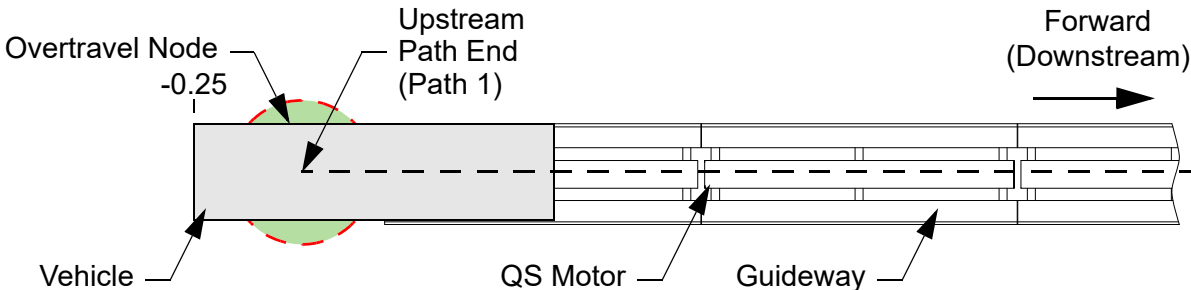
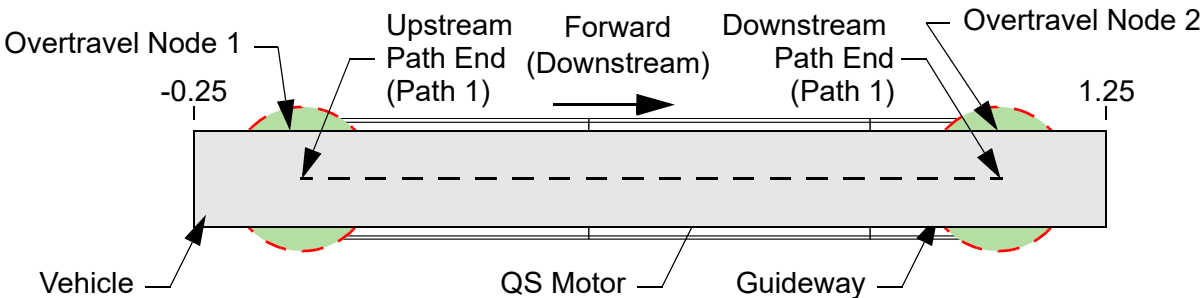

Figure 4-87: Overtravel Node, Startup Top View
Figure 4-88: Overtravel Node, Extended Vehicle Top View
An Overtravel node is used to permit part of a vehicle to move past the end of the motor at the end of a path. Additional support structure (guideway) for the vehicle must be provided, or the vehicle’s supports (wheels) must not be allowed to move past the end of the path. See Figure 4-87 and Figure 4-88, where the shaded area represents Overtravel nodes.
- Providing space for vehicle movement during startup (Figure 4-87).
- Allowing movement of a vehicle that is longer than the motor(s) on the path (Figure 4-88).
If the configuration of this node is the same as the configuration shown in Figure 4-87, configure the node, see Figure 4-90.
If the configuration of this node is the same as the configuration shown in Figure 4-88, two Overtravel nodes are required. Configure the nodes, see Figure 4-91.